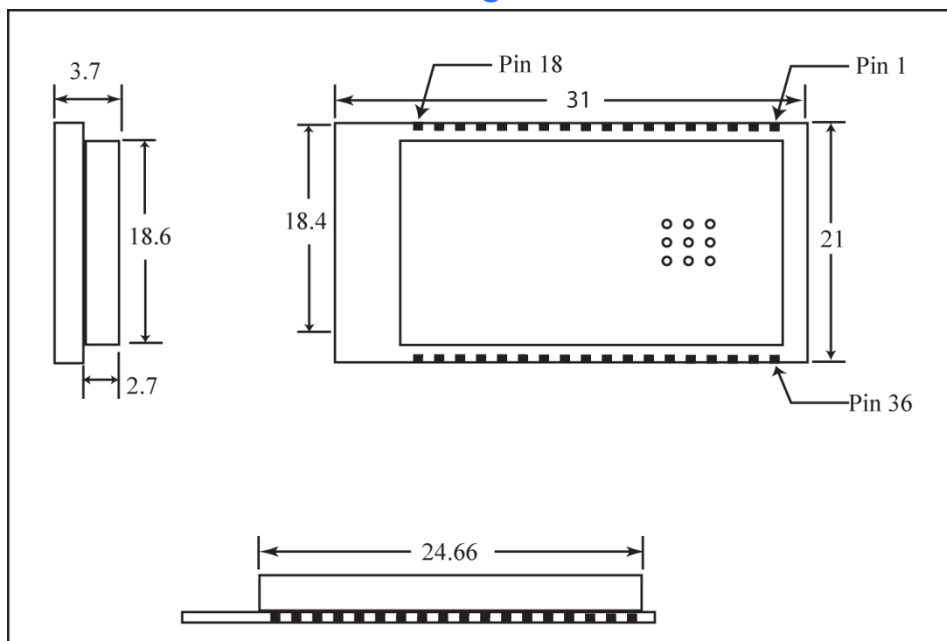

Figure 10 ZG2100M Module Physical Dimensions
- Routing under the module except for limits shown in Figure 10 is acceptable, if they are solder-masked.